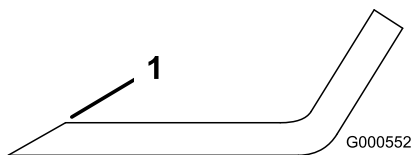

Figure 59
1. Use a file to sharpen the cutting edge at both ends of the blade (Figure 59).
- Note:** If the blade is not balanced, file some metal off the end of the sail area only (Figure 59).